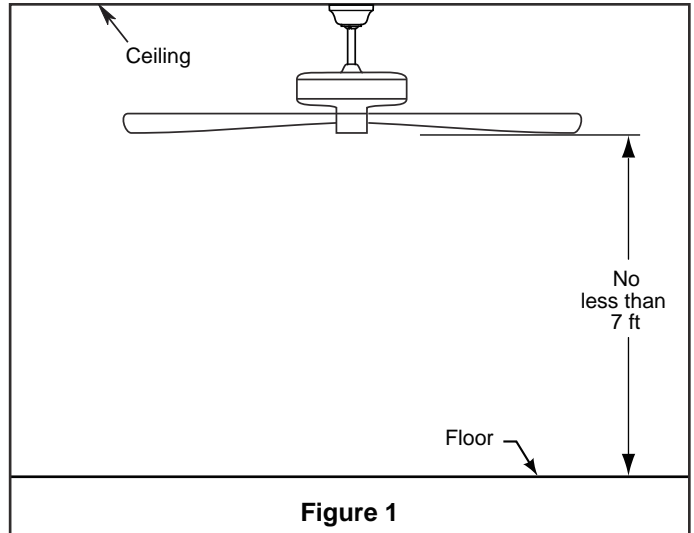

Figure 1
1. Remove the hanger ball portion from the downrod /hanger ball assembly by loosening the set screw in the hanger ball until the ball falls freely down the downrod. Remove the pin from the downrod, then remove the hanger ball. Retain the pin and hanger ball for reinstallation in Step 8 (Figure 1).
The fan must be hung with at least 7' of clearance from floor to blades (Figure 1)
To avoid possible electrical shock, be sure electricity is turned off at the main fuse box before hanging (Figure 1).